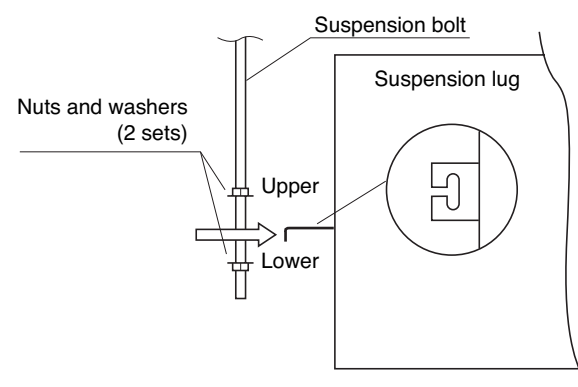

Fig. 3-95
- (3) Thread the 2 hexagonal nuts and washers (field supply) onto the 4 suspension bolts as shown in Figs. 3-95 and 3-96. Use 2 sets of nuts and washers (upper and lower), so that the unit will not fall off the suspension lugs.